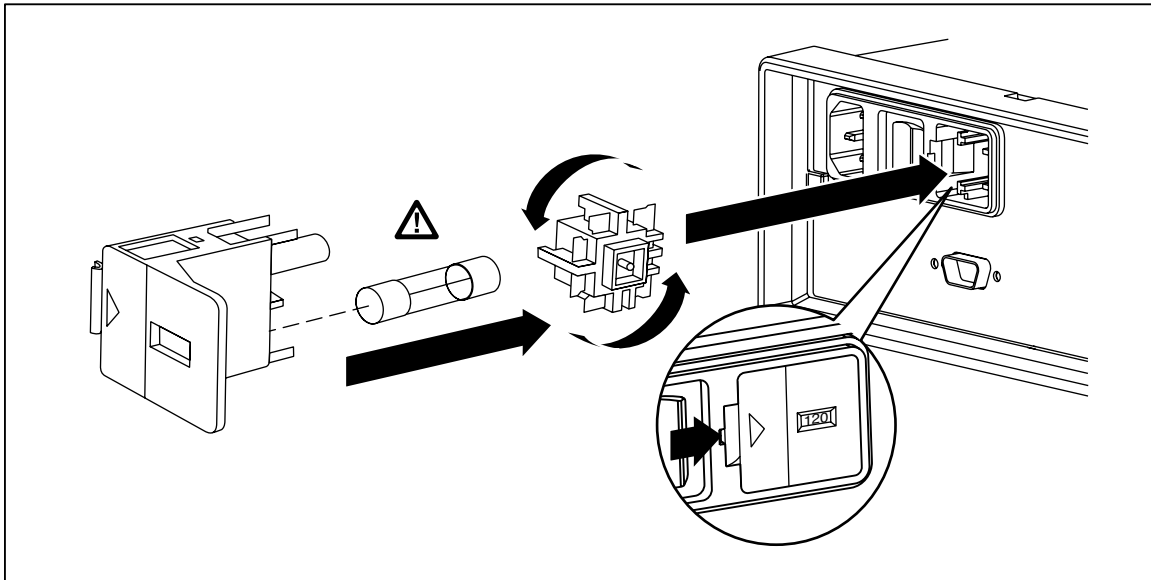

Figure 1. Replacing the Line-Power Fuse
2. Insert a small screwdriver blade into the narrow recess to the left of the fuse holder and pry it to the right until the holder pops out. See Figure 1.